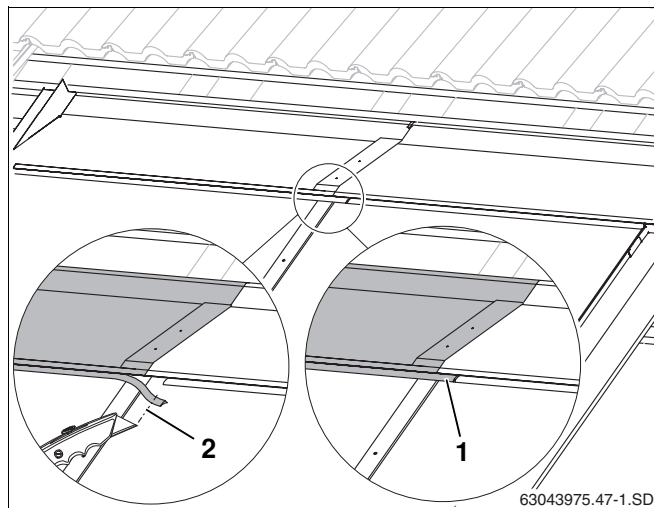

Fig. 58 Upper left facing collector
- Shorten the rubber lip (Fig. 58, **Item 2**), so that it touches the rubber lip on the right-hand facing collector.
- Place rubber lip on the left-hand facing collector onto the fold on the right-hand facing collector. (Fig. 58, **Item 1**).